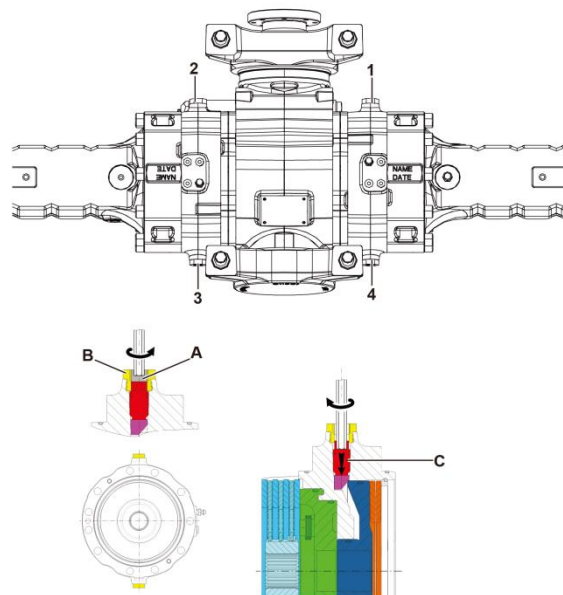

Figure 10-2 Brake release
- Remove bolt (A), do not remove bolt (B).
- Twist brake release Bolt (C) inward.
- 3) As shown in Figure 10-2. Act on front axle in the same way.